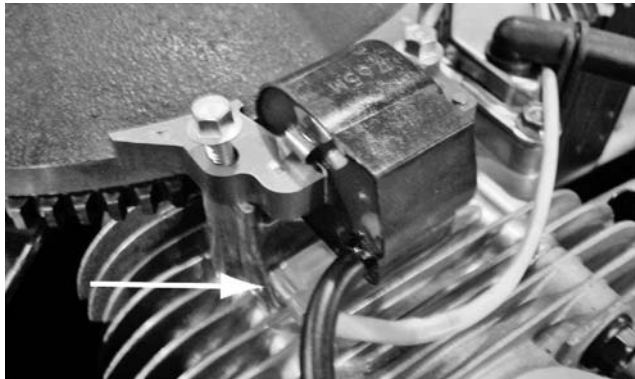

Figure 147.
5. Long plug wire (B) will be installed on front cylinder (number two).
6. Short plug Wire (A) will be installed on back cylinder (number one).
7. Verify installation of magnetos correctly by ensuring both spark plug wires point to the back of the enclosure and shutdown terminals are nearest cylinder head as shown in Figures 147 and 148.